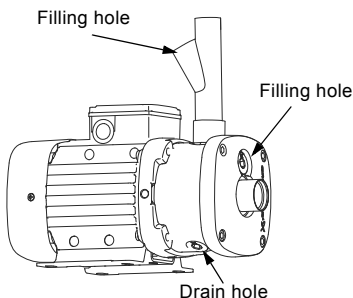

Fig. 9 Position of filling holes and drain hole
4. Remove the filling plug in the pump. See fig. 9.